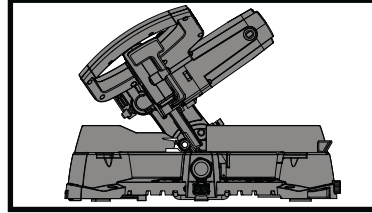

Fig 24
- 1) Set the cutting head to 33.9° by deploying the crown moulding pin. Check the angle of the blade against the machine table using the vernier angle gauge. (See fig. 24)